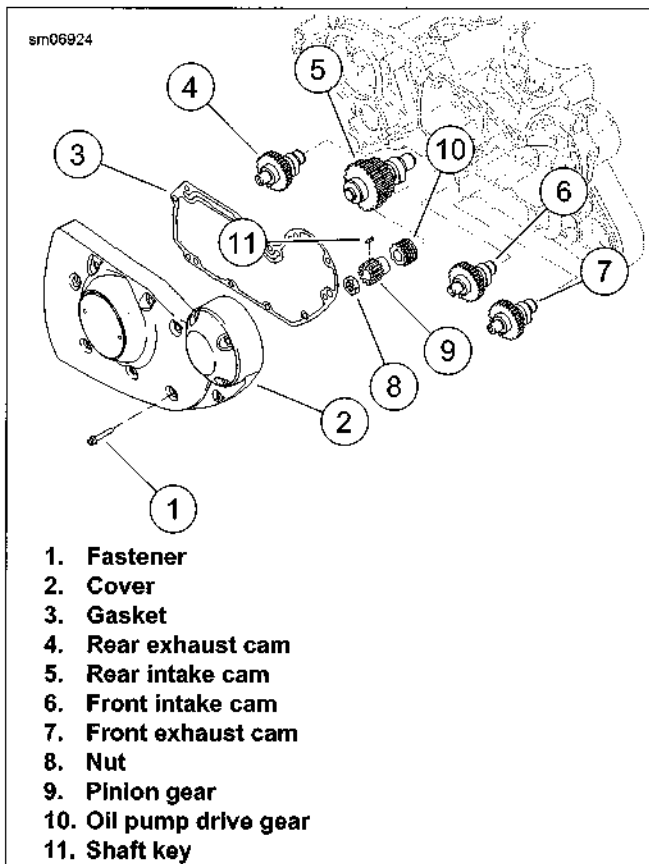

Figure 3-80. Gearcase Cover and Cam Gears
5. See Figure 3-80. Remove cover screws (1) and cover (2). Discard old gasket (3).